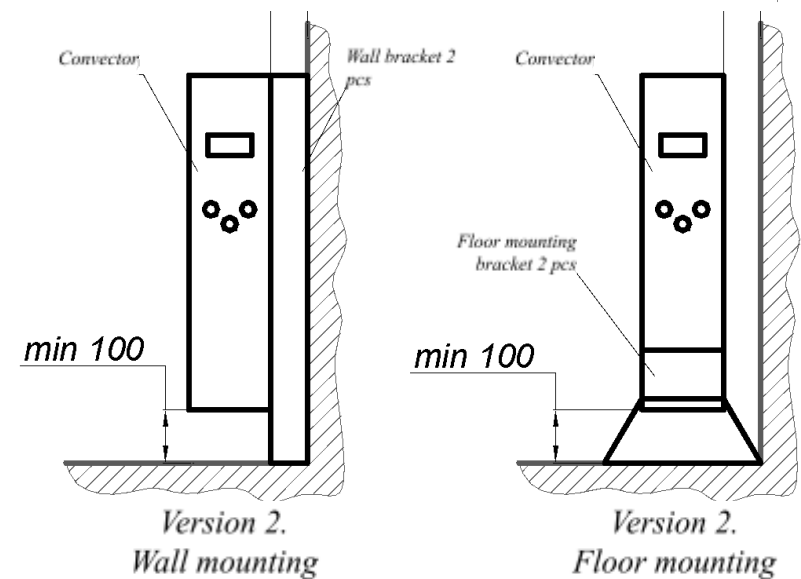

Fig. 2
- 4.3. Attach the brackets to the wall. For floor mounting, install the convector on the floor brackets and attach them to the floor. The recommended installation scheme is shown in Fig.2.
- 4.7. It is recommended to install the convector at a height of at least 100 mm from the floor level and at a distance of 75-80 mm from the wall, see Fig.2.